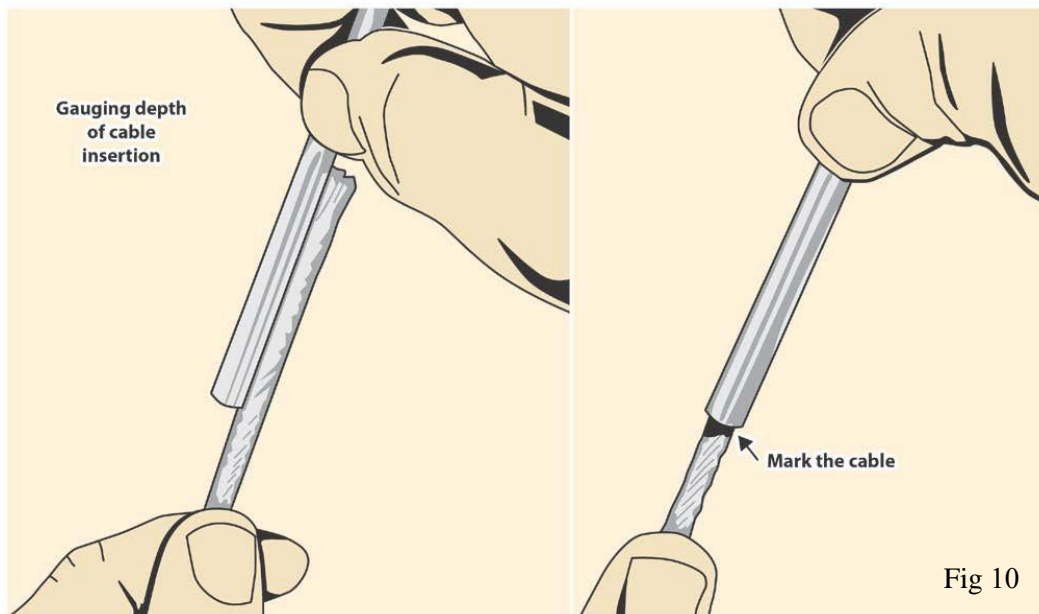

Fig 10
- b) Using a black marker, mark the cable to provide a visual reference that the cable remains fully seated down inside the fitting and does not slip out (Fig. 10).